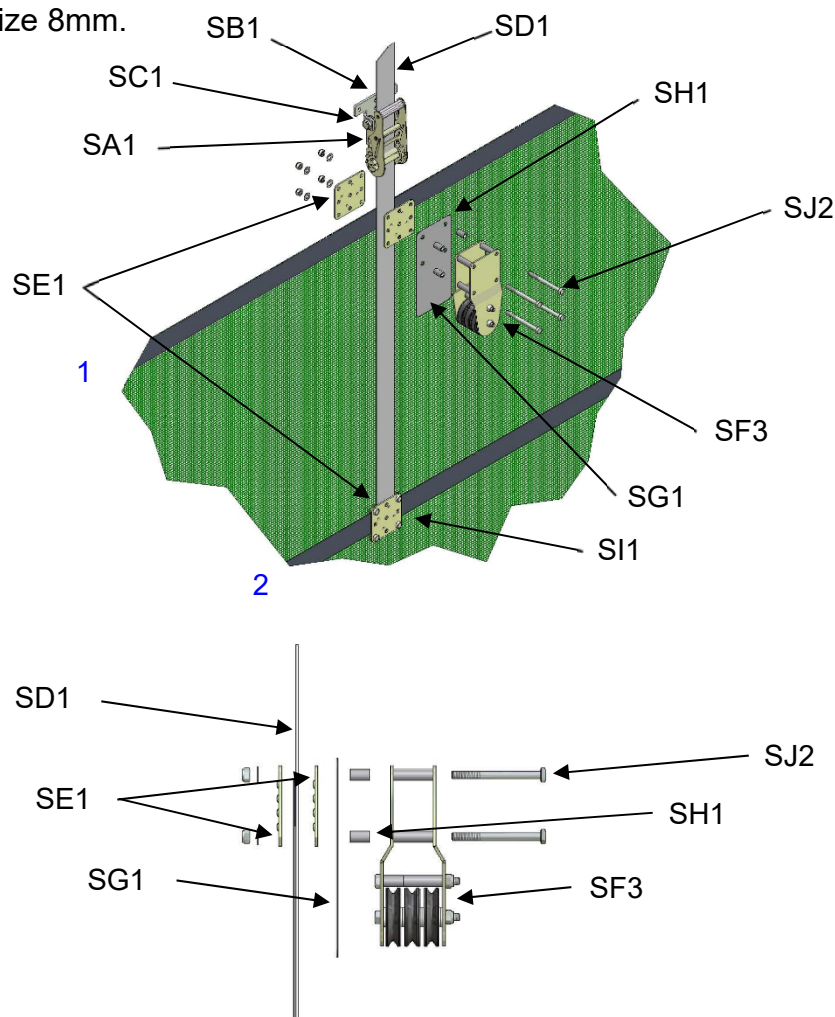

Figure 30
9.5 Replacing Section 6.2: Fix the Ratchet (SA1) to the Ratchet Bracket (SB1) with the M12 x 90mm bolt (SC1) provided. The standard fitting of the ratchet bracket is depicted in Figure 30, but it can be reversed if vertical mounting space is limited. Fit assembly to the building with three fixings, minimum size 8mm.
9.6 Replacing Section 6.3: Referring to Figure 30. Fix vertical webbing strap (SD1) to second strap down on the door using the Clamp Plates (SE1) and M8 x 20 Bolts (SI1) provided. Repeat process on top strap but use the M8 x 90 Bolts supplied (SJ2) and include the Wire Support Assembly (SF3), Spacers (SH1) and Wire Support Protection Pad (SG1). Feed webbing through ratchet and ensuring a minimum of 150mm of webbing is around the ratchet barrel operate handle to lift the door. Continue to adjust ratchet until top of door is level.